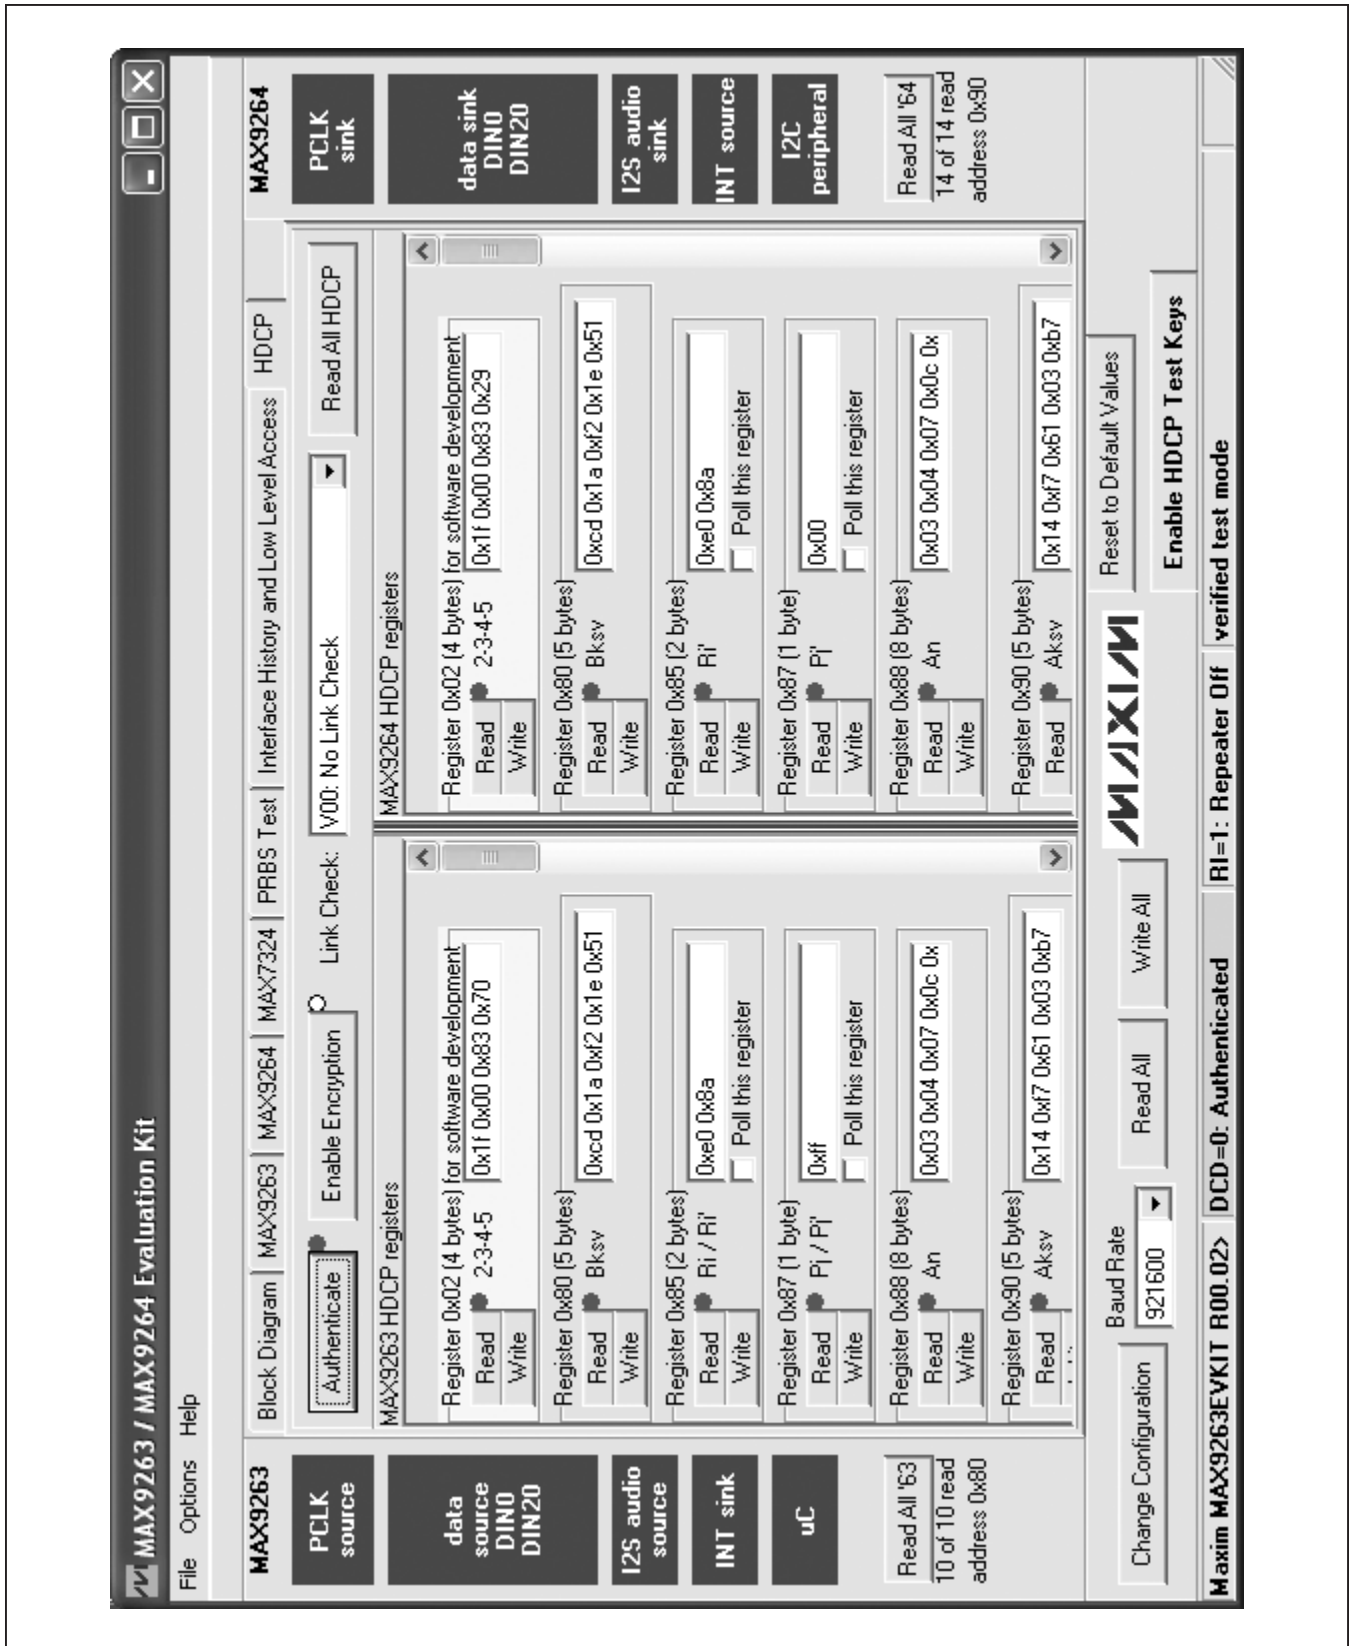

Figure 7. MAX9263/MAX9264 EV Kit Software Main Window (HDCP Tab)
- 15.6) On the **HDCP** tab sheet (Figure 7), verify that HDCP authentication between Board #1 and Board #2 is successful. The corresponding Bksv and Aksv values should match, and the Ri keys should be updated with the same value.
The **HDCP** tab sheet (Figure 7) shows the HDCP registers of both the MAX9263 serializer and the MAX9264 deserializer side-by-side. This tab sheet is removed if the device capabilities register does not indicate that the device supports HDCP, so if the software is used with the MAX9259, MAX9260, MAX9249, or MAX9268, this tab sheet is not visible. Many of the HDCP registers are displayed as multiple hexadecimal bytes, with a 0x prefix before each byte and spaces between bytes. The **Authenticate** button commands the firmware to perform HDCP authentication, using either internal or external comparison depending on the **EN_INT_COMP** bit in the Actrl register. The **Enable Encryption** button waits for a falling edge on VSYNC and then writes to the MAX9263 Actrl and MAX9264 Bctrl registers, with the encryption enable bit set to 1. When the button caption changes to **Disable Encryption**, operation is the same except that the encryption enable bit is cleared to 0. After encryption is enabled, registers 0x85 and 0x87 are repeatedly polled as long as each register's **Poll this register** checkbox remains checked. The **Link Check** drop-down list configures the optional HDCP link integrity check, which can be used to check the R values every 128 VSYNC falling edges or check the P values every 16 VSYNC falling edges.